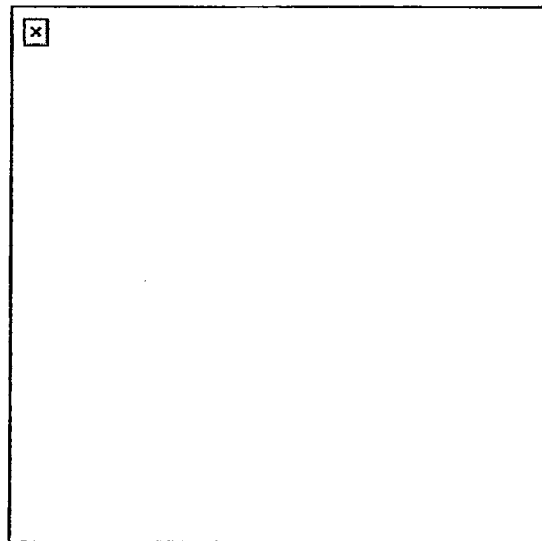

Figure 5. Camouflage of loopholes.
- (2) Camouflage the loopholes by knocking other holes in the wall to make it difficult for the enemy to know which hole the fire is coming from (Figure 5).